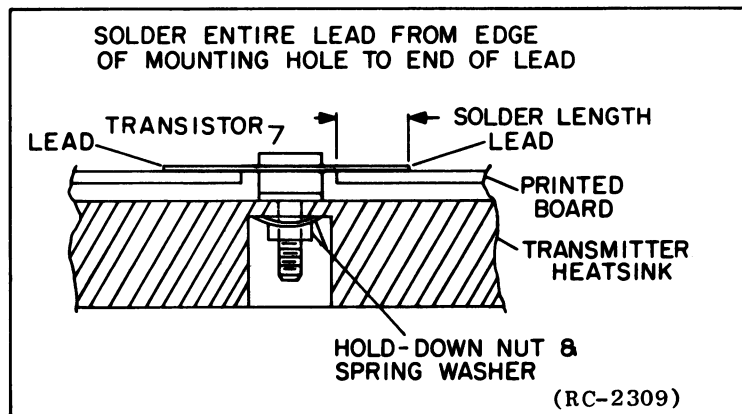

Figure 5 - Lead Forming
6. Make sure that the transistor leads are formed as shown in Figure 5 so that the leads can be soldered to the printed circuit pattern, starting from the inner edge of the mounting hole.